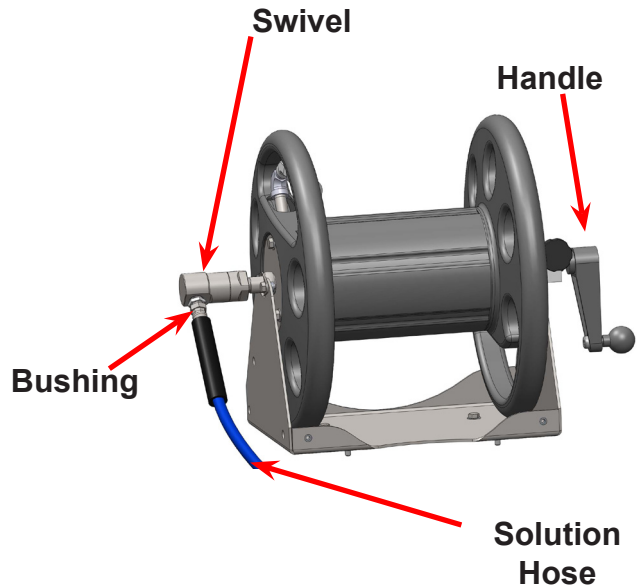

Figure 54. Attach Swivel, Bushing and Handle onto Hose Reel
6. Attach the Solution Hose Reel handle (see Figure 54).
8. Attach the swivel to the Solution Hose Reel (see Figure 54).
9. Install the bushing onto the swivel (see Figure 54).